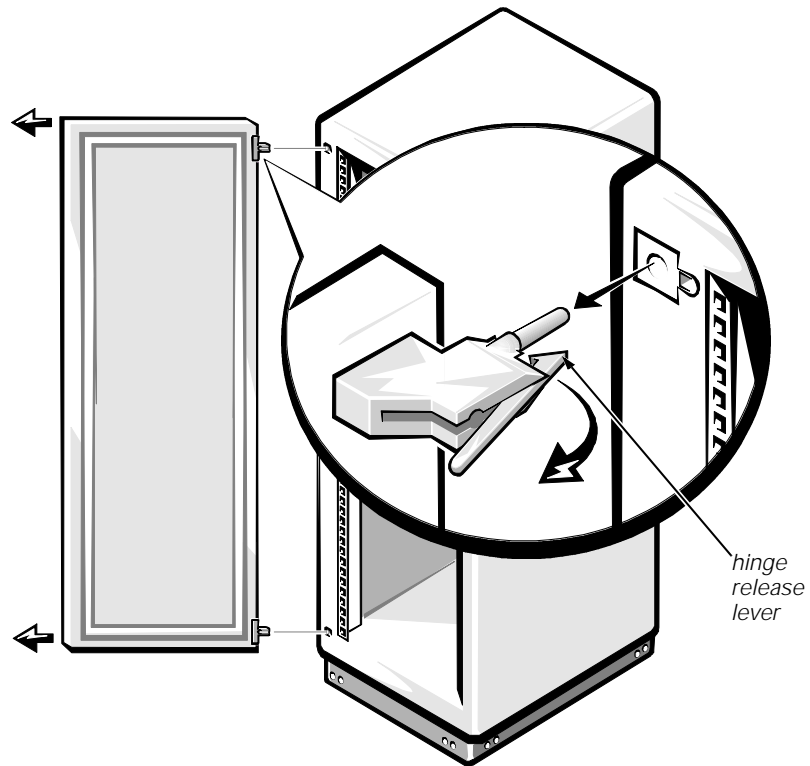

Figure 11. Removing the 42-U Rack Doors
2. Remove the front door from the rack as shown in Figure 11.
1. Lift the front door into position and align the hinges with the holes in the rack as shown in Figure 11.